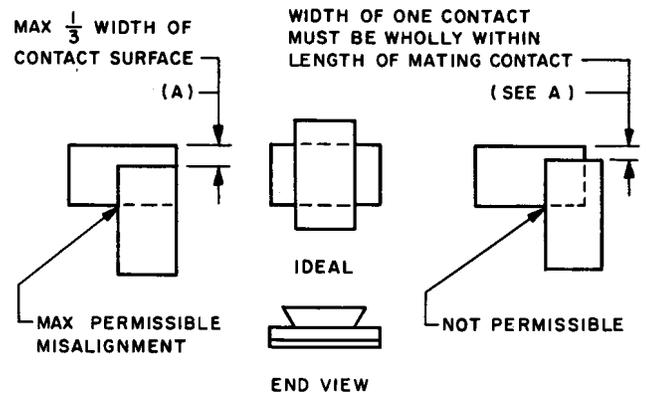

Fig. 6 — Alignment of Contacts
**2.15 Contact Alignment:** Fig. 6 (A) — The contact alignment shall be within the limits indicated in Fig. 6.